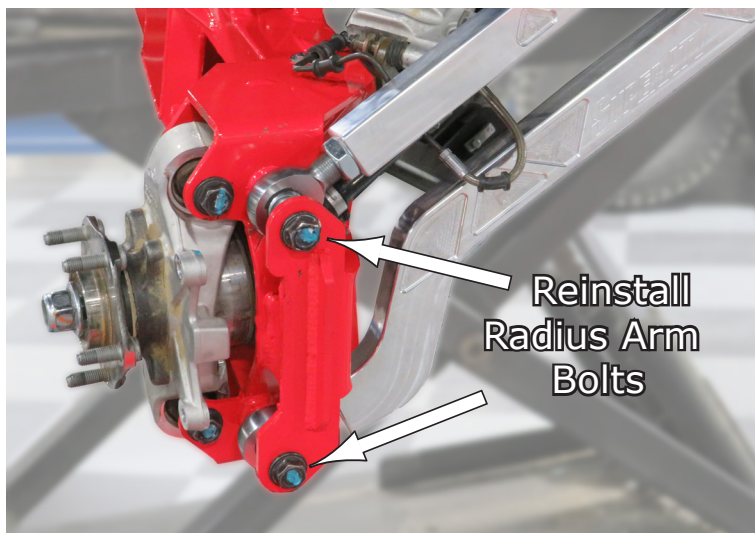

Fig.14
15. Now reinstall the Radius Arm Bolts you removed earlier. See **Fig.14**.